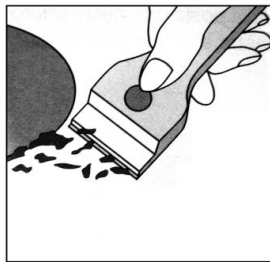
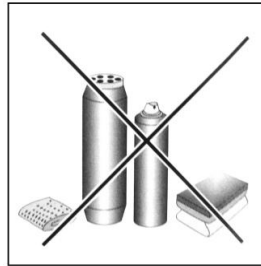

Fig.1
Fig.2
- **CERA** ^{Quax®} (not supplied) (Fig. 1). Clean the cooking surface when it is still warm with a suitable cleaning product and paper towels. Then rub with a damp cloth and dry. Aluminum foil, plastic items, objects made of synthetic material, sugar or foods with a high sugar content that have melted onto the surface must be removed **immediately** with a scraper while the cooking surface is still hot. Special cleaning products for ceramic glass surfaces form a transparent protective layer which fights dirty buildup. This also protects the surface from damage caused by food with a high sugar content. Do not use abrasive sponges or cleaning products under any circumstances. This holds true for chemically aggressive cleaners, like oven sprays and stain removers (Fig.2)